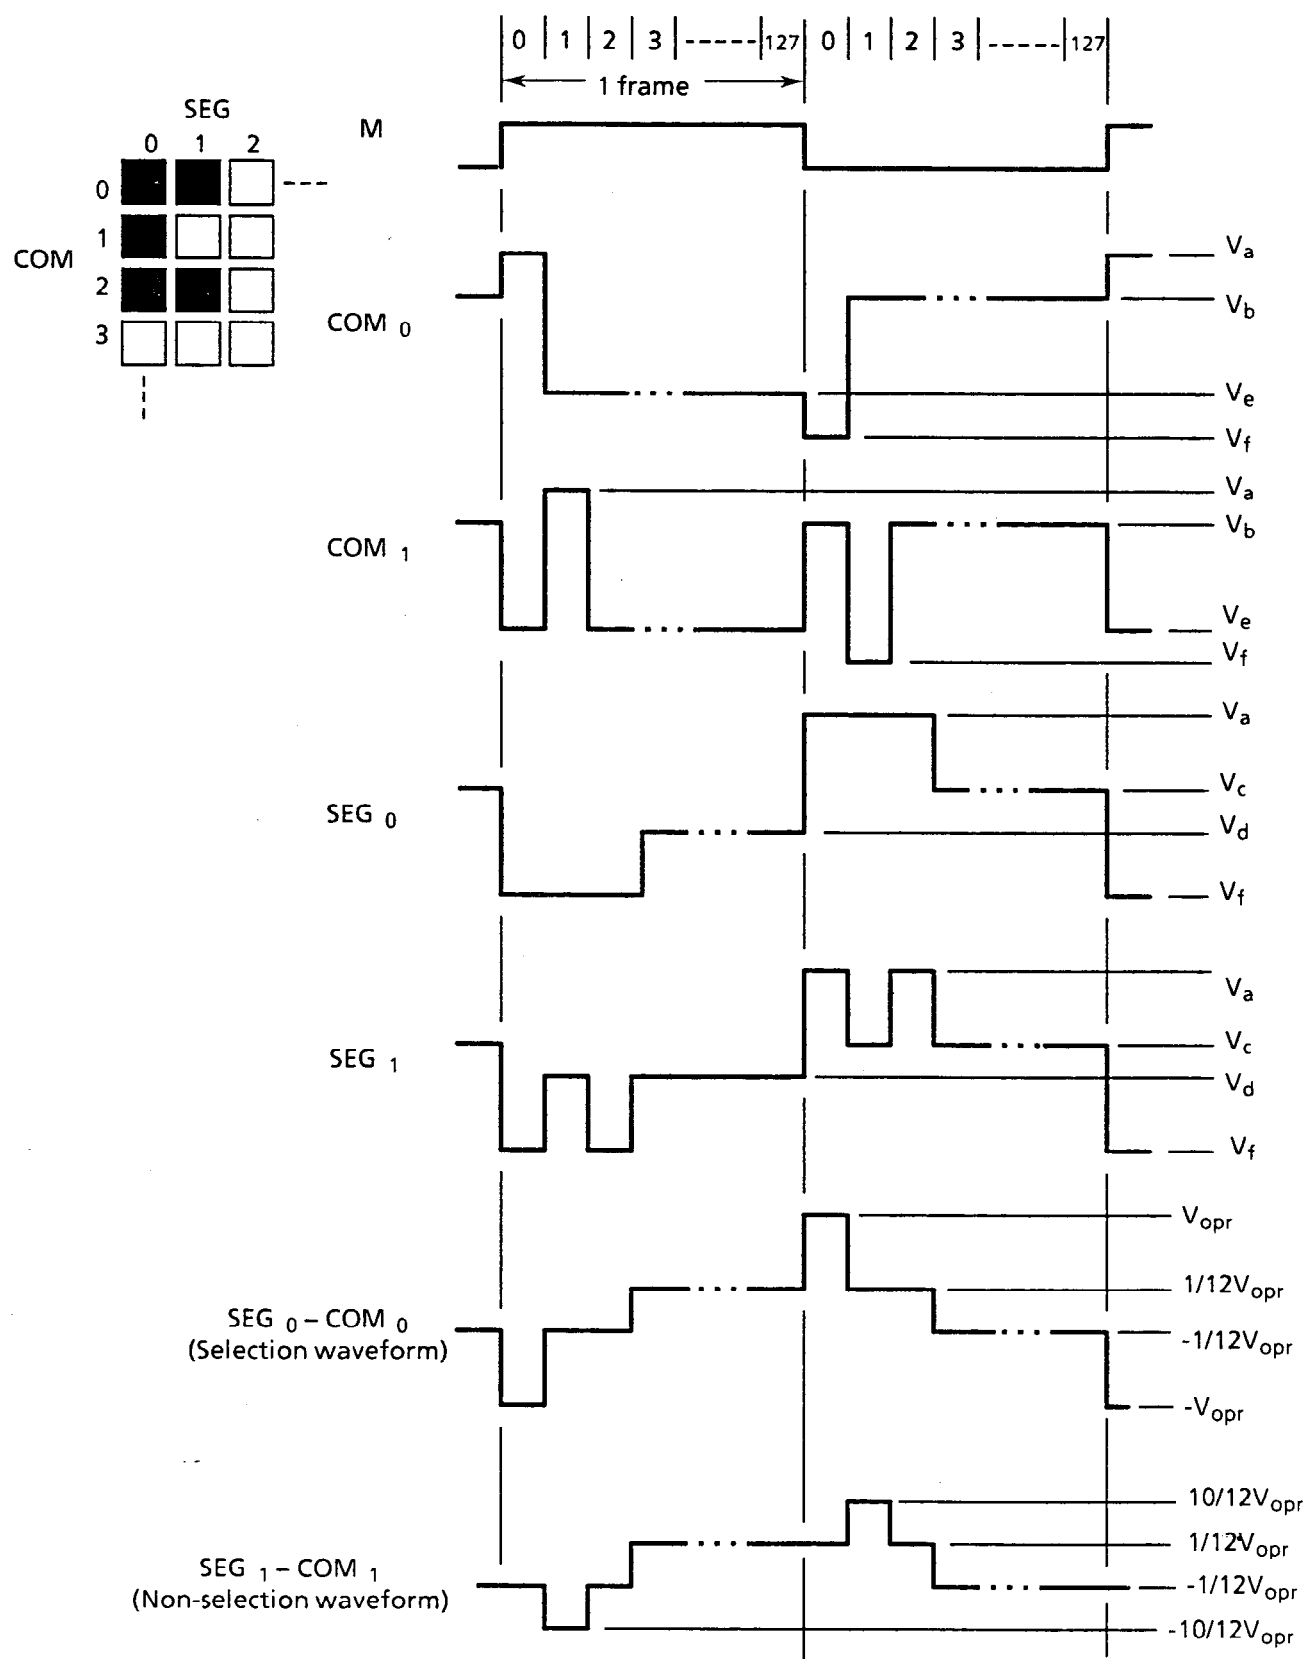

Figure 2 Drive waveform
The drive waveform of the LCD panel is shown in Figure 2 on the next page. Since DC voltage will damage the liquid crystal, an AC voltage is applied between the two frames. The signal controlling this is the liquid crystal AC drive control signal (M).
The G191C has a 1/128 duty cycle, and the common electrodes are selected within a frame by time division from electrode 1 to electrode 128. This is called line sequential scanning. The voltage level of the segment electrodes determines whether the dots at the intersection of the segment electrodes are selected or not, when the common electrode is selected. As shown in Table 1, there are six drive waveform voltage levels, V_a to V_f . The voltage level is determined by the bias value. The voltage between the segment and common electrodes is thus applied to the liquid crystal. The selection waveform for SEG₀-COM₀ and the non-selection waveform for SEG₁-COM₁ are shown in Figure 2. The size of the effective voltage of the waveform determines whether the liquid crystal under the selected dots is in the selection or non-selection state.